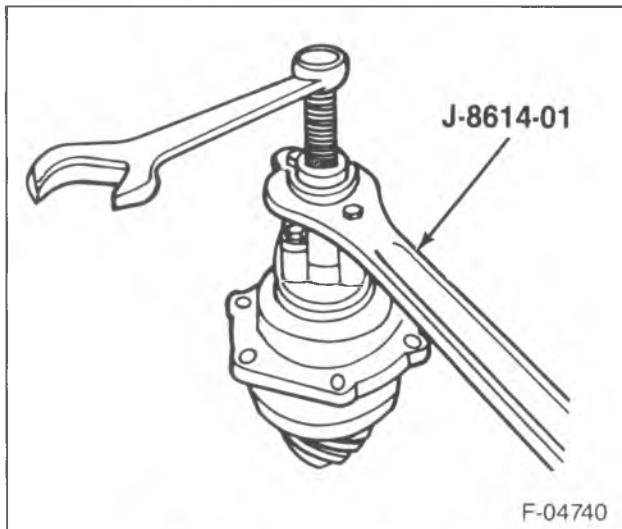
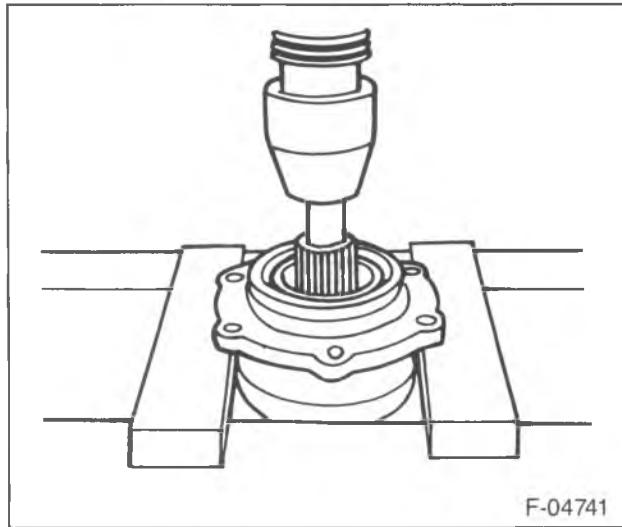
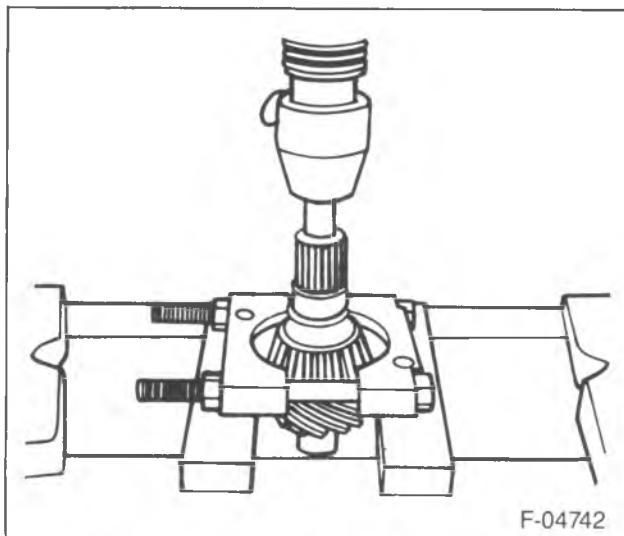
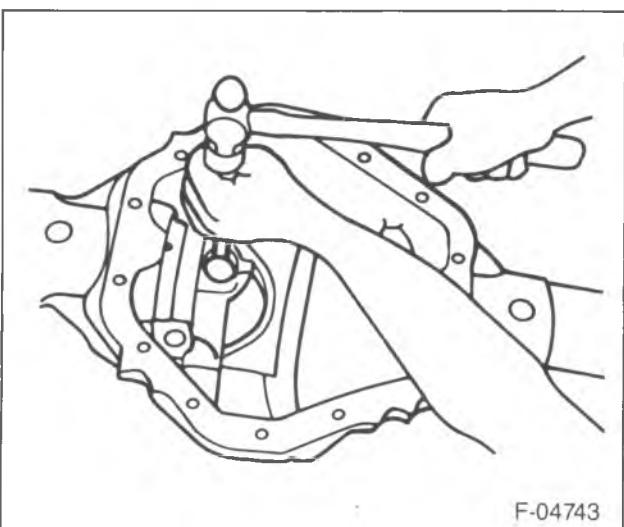

Figure 6—Removing the Pinion Flange
Figure 7—Pressing the Drive Pinion from the Cage
Figure 8—Removing the Pinion Inner Bearing
Figure 9—Removing the Pilot Bearing
- 20. Pinion flange using J 8614-01 (figure 6).
- 21. Pinion (14) from the pinion cage (10).
- Place the cage into an arbor press as shown in figure 7 and press the pinion from the cage. Do not let the pinion fall to the floor.
- 22. Collapsible spacer (12) from the pinion.
- 23. Inner bearing (13) from the pinion (14).
- Press the bearing from the pinion using J 22912-01 (figure 8).
- 24. Pinion seal (5) from the pinion cage.
- 25. Front bearing (6) from the cage.
- 27. Pilot bearing (15) from the axle housing using a hammer and brass drift (figure 9).